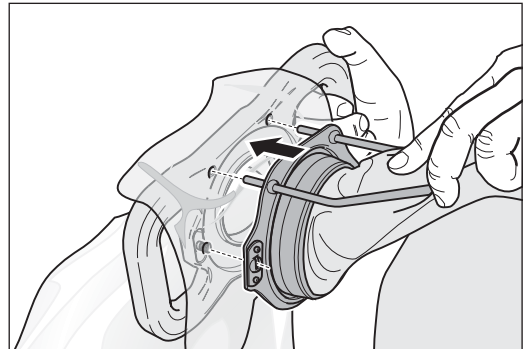

Fig. 21 Insert the dust bag with fixing plate into the emptying fixture.
- 11 Insert the dust bag with fixing plate into the emptying fixture. Make sure that the dust bag rods are in the correct position: The pins must fit into the openings provided (Fig. 21).
- 12 Apply light pressure to insert the fixing plate of the dust sack completely into the emptying fixture. The pins on the dust bag rods will pierce the waste bag and prevent it from slipping (Fig. 21).